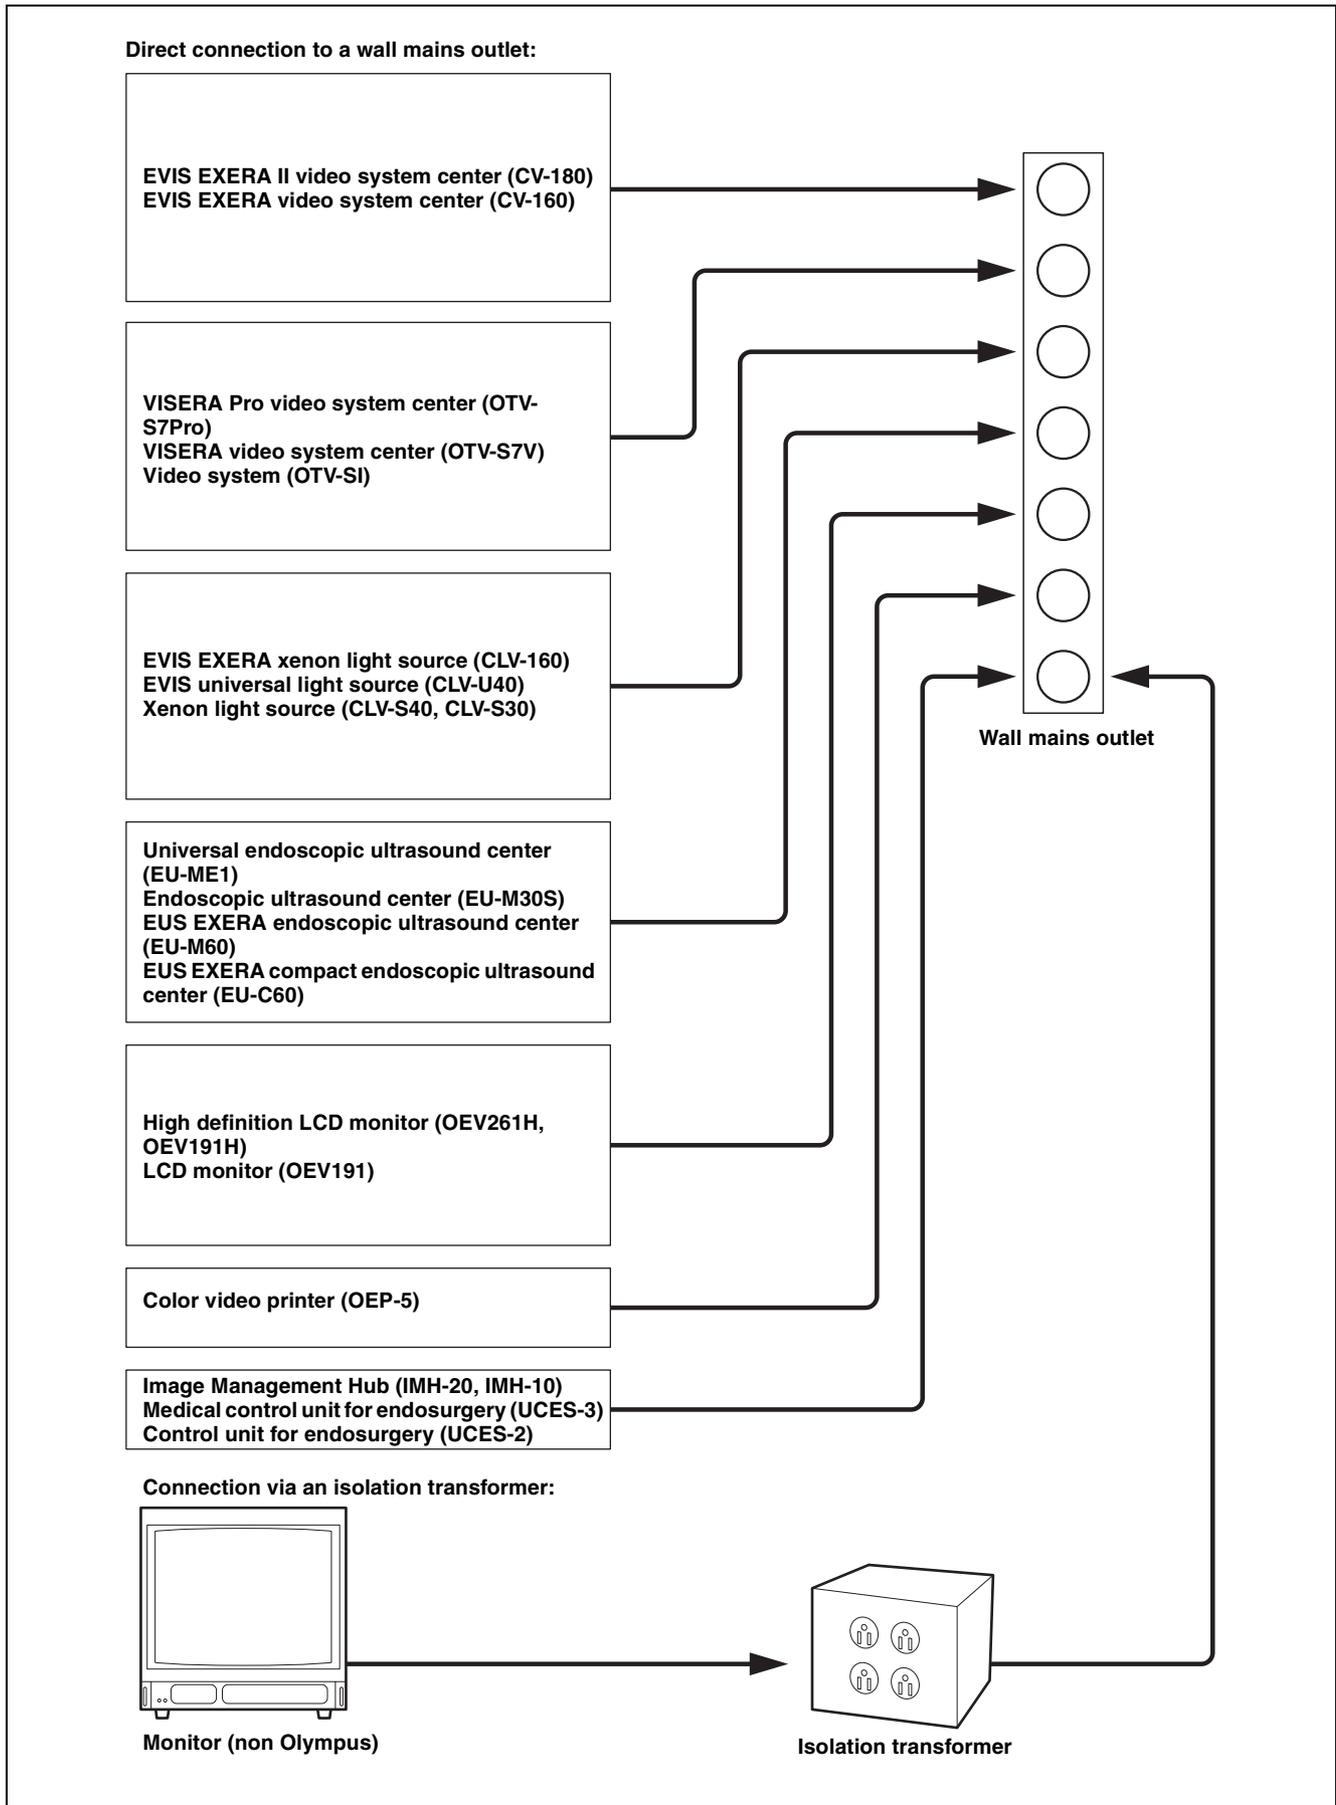

Figure 2.13
- 3 The following ancillary equipment can be connected directly to wall mains outlets (see Figure 2.13).
- 4 The following ancillary equipment should be connected through an isolation transformer (see Figure 2.13).